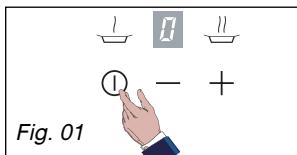

Fig. 01
— **Select** the burner that you wish to use by placing your finger squarely on the corresponding touch control (①) (fig. 01).